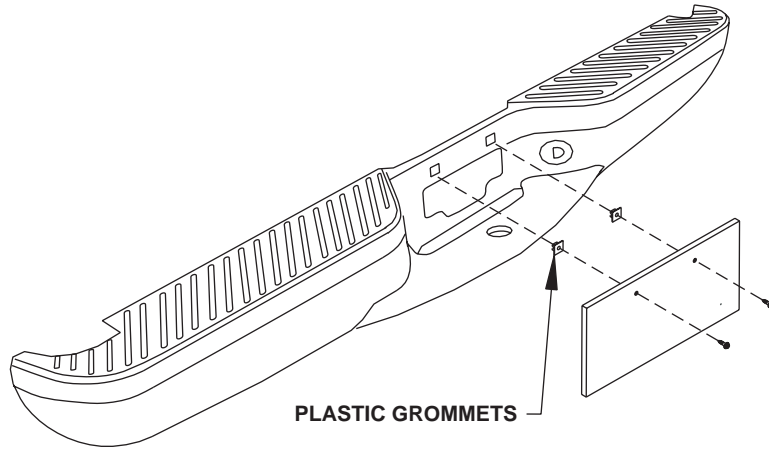

FIGURE 2
- STEP 4:** Use square plastic grommets and screws to install license plate. Refer to Figure 2.